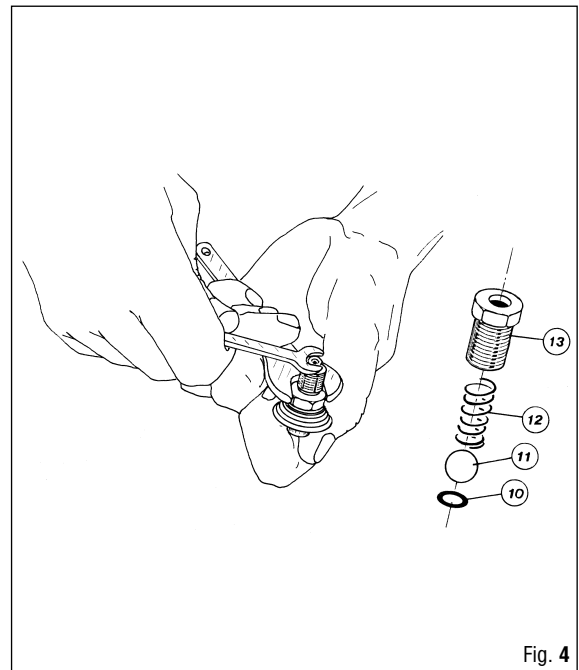

Fig. 4
1. Hold the quick coupling (7) in place using wrench B-18 (14 mm), and use a 7-mm open end wrench to unscrew the check valve connector (13), removing the spring (12) and the ball (11) (See Fig. 4).
2. Remove the O-ring (10) from the quick coupling assembly (7) (See Fig. 4).